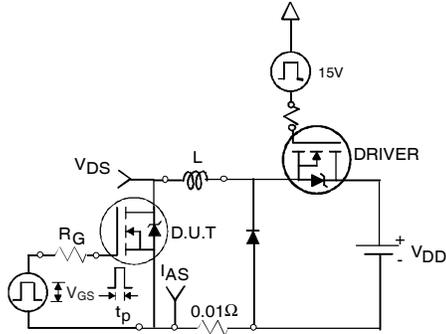

Fig 12a. Unclamped Inductive Test Circuit
- ④ Pulse width ≤ 400μs; duty cycle ≤ 2%.
- ⑤ C_{oss eff.} is a fixed capacitance that gives the same charging time as C_{oss} while V_{DS} is rising from 0 to 80% V_{DSS}.
- ⑥ Limited by T_{Jmax}, see Fig.12a, 12b, 15, 16 for typical repetitive avalanche performance.
3. Equation below based on circuit and waveforms shown in Figures 12a, 12b.